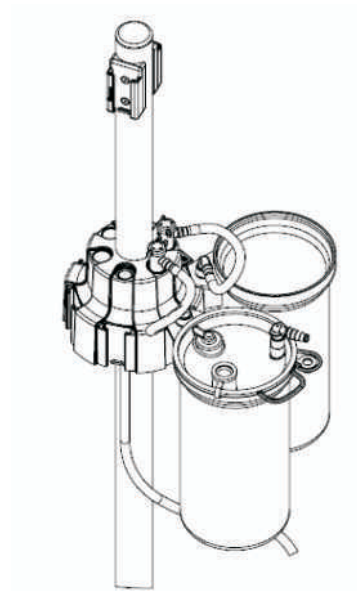

figure 18
- Open the holes (6 pcs) of on-off valves on the canister holder's top surface by driving the cover plates in. **Figure 18 A.**